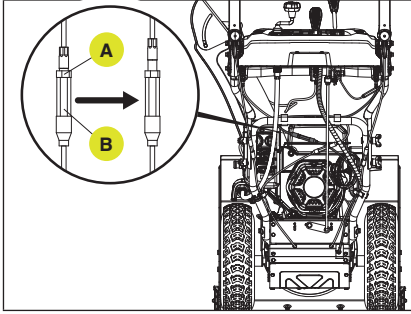

Figure 43
- Slide rubber boot back, loosen the nut (A) counterclockwise, then loosen the center bolt (B) clockwise. Test function. Tighten the nut clockwise against the long sleeve bolt. Slide rubber boot back to cover the nut. Lengthening this nut connection will create more tension with the auger belt. Do not over adjust the cable, too much tension on belt will not allow the belt to separate from the pulley when disengaging. If the belt isn't allowed to disengage properly, you could cause premature wearing of the belt and ultimately cause belt failure. (Fig. 43)